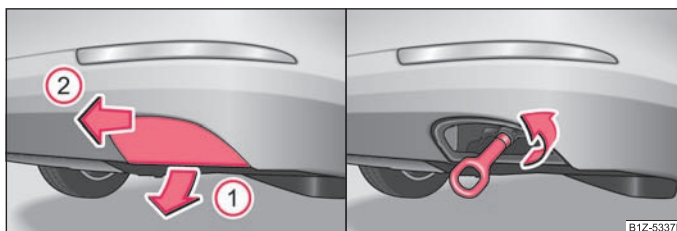

Fig. 187 Rear bumper: Remove cover/rear bumper: Installing the towing eye
- Unlock the bottom part of the cover by pulling it downwards in direction of arrow (1) ⇒ fig. 187.
- Unlock the upper part of the cover by pulling it in direction of arrow (2) and remove it.
- Screw in the towing eye by hand to the left up to the stop ⇒ fig. 187 - right and tighten it as much as possible. For tightening, we recommend that you use for example the wheel wrench, the lashing eye of another vehicle or a similar object which you can push through the eye.